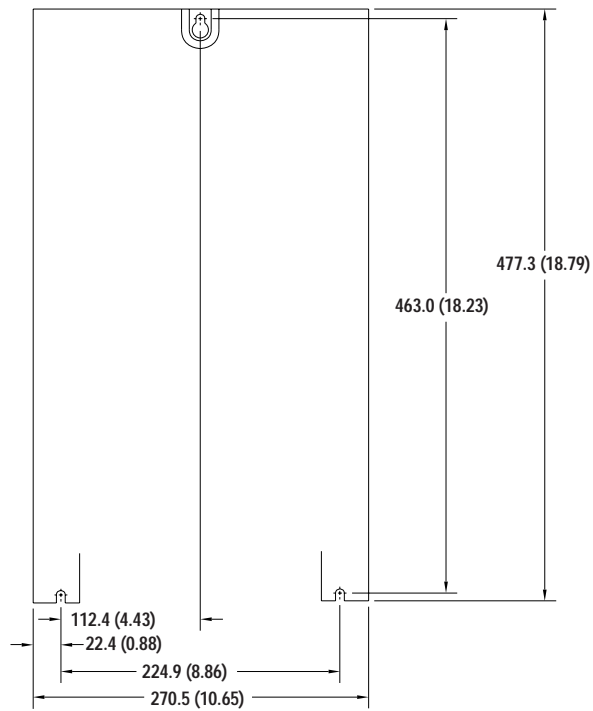

Figure 3.
- 3.** Insert properly sized and rated lifting hooks into the top two 1” holes of the drive chassis (Figure 6). To limit pull in forces on the drive, the lifting devices connected to the hooks must be long enough to make the angle between the chain and a vertical line extending up from the cabinet edge less than 45 degrees as illustrated in Figure 3.